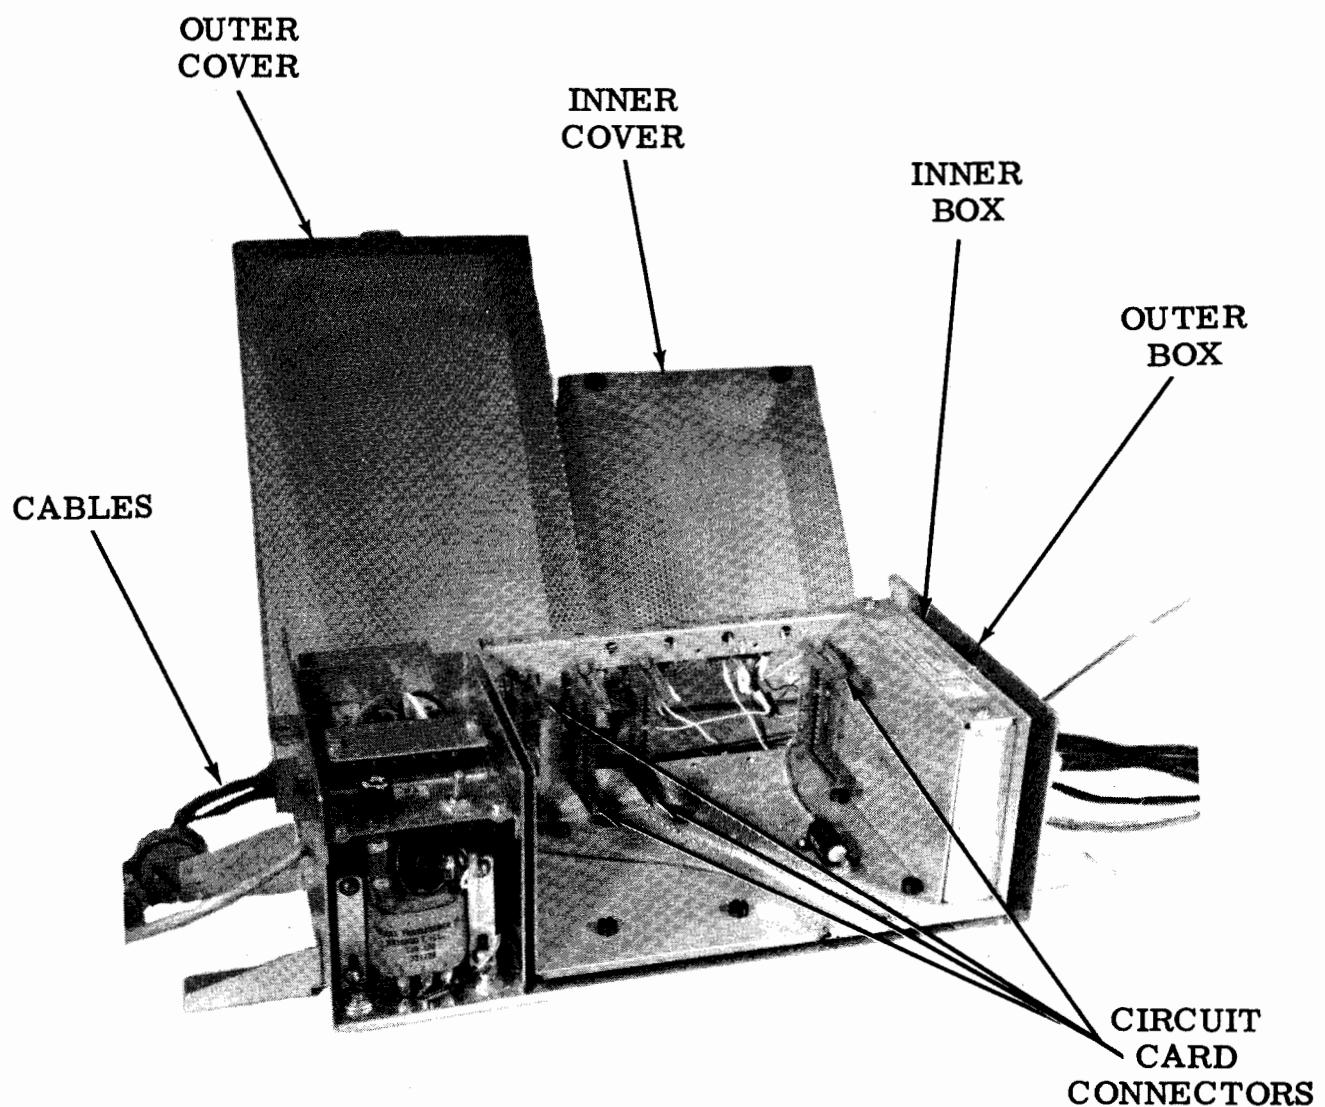
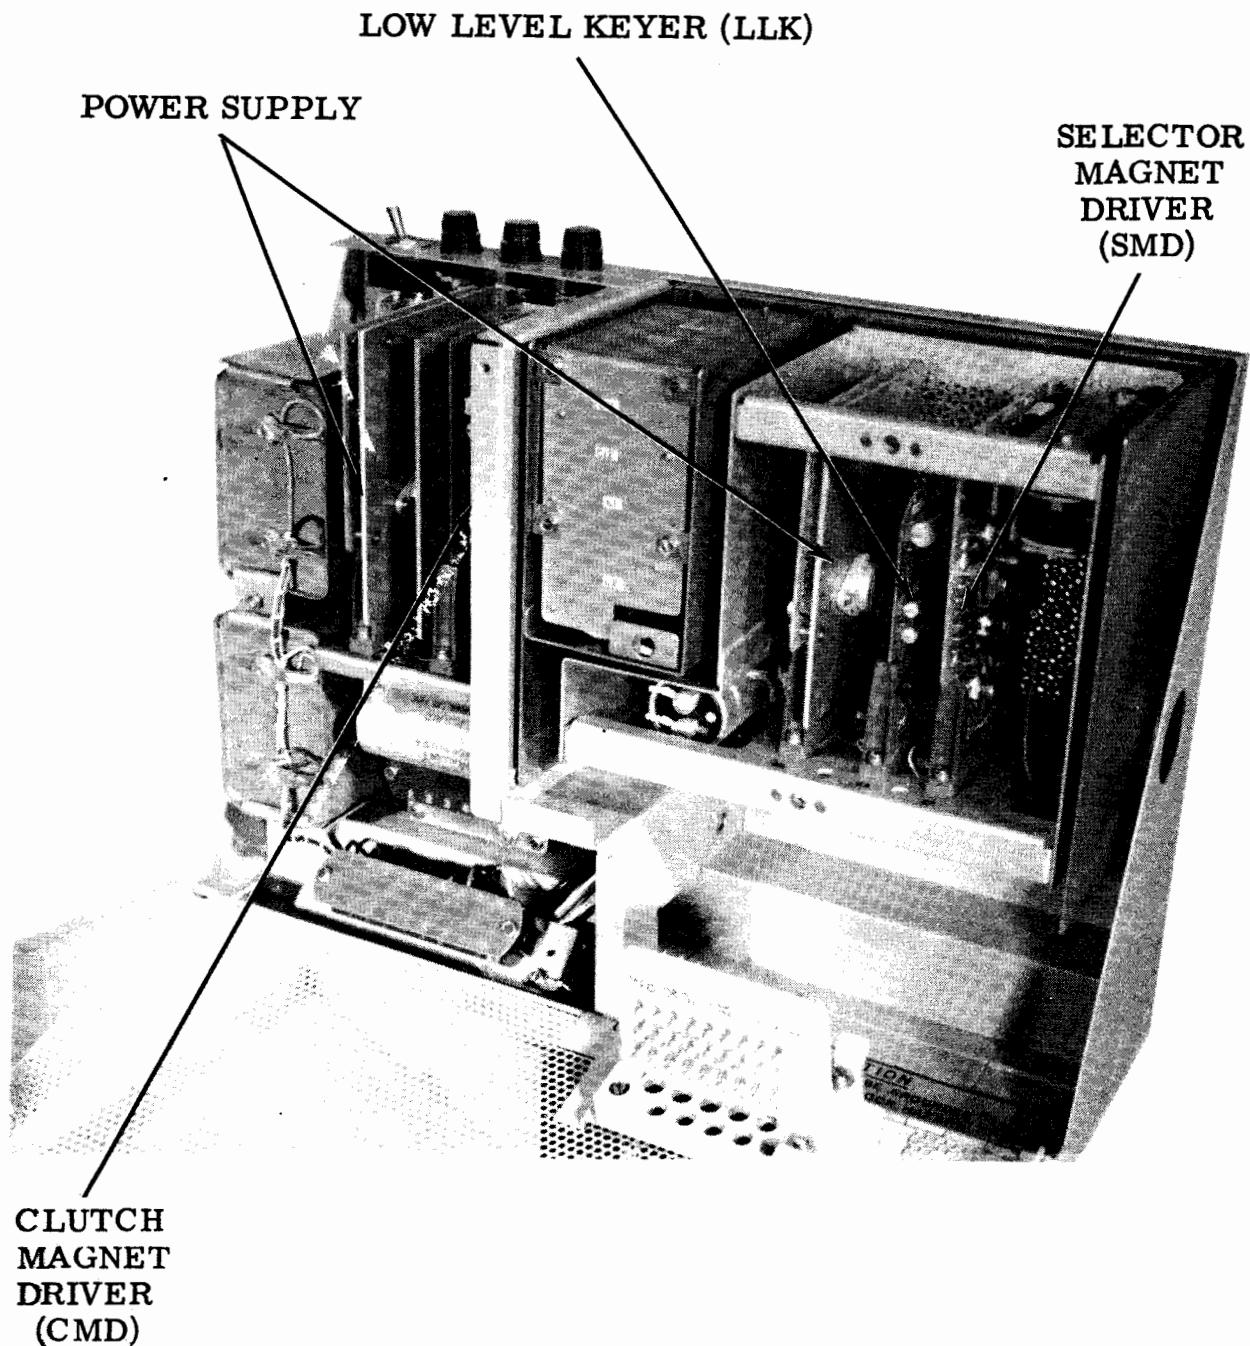

Figure 5 - ESA Showing Circuit Card Connectors
Figure 6 - ESA Showing Typical Circuit Cards
- 1.03 Thus, each ESA differs in accordance with the mounting provisions and the number of isolation relays and circuit card connectors provided (Figures 5 and 14). The circuit card connectors of each ESA provided for plugging in a certain combination of power supply cards, LLK cards, SMD cards, and CMD cards (Figure 6). These cards, however, are not an integral part of the ESA. For further information on the cards, refer to the specifications given in the following chart: